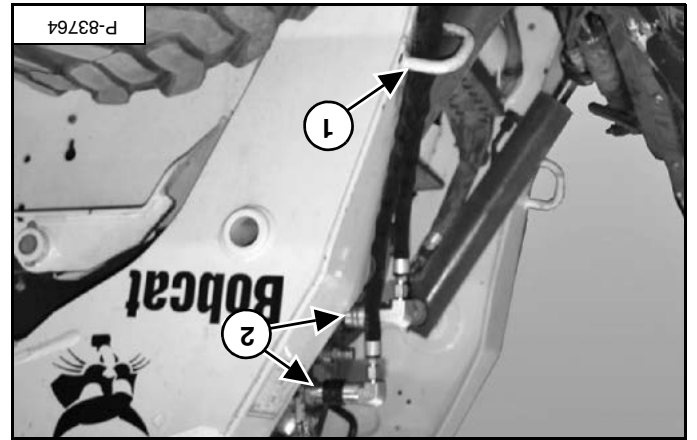

Figure 47
If your loader has an earlier version hose guide, route the attachment hydraulic hoses through the hose guide (item 1). Connect the quick couplers to the loader (item 2). [Figure 47]. (See Hydraulic Quick Couplers on Page 48.)